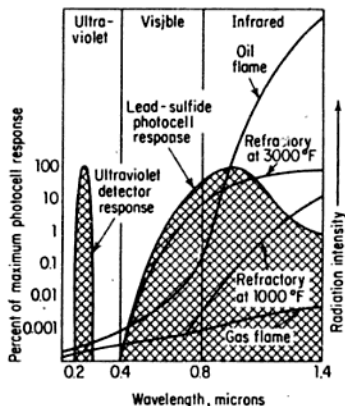

Fig. 11-8. Percentage wavelength light response versus wavelength for flame detection systems.
c. Ultraviolet radiation is the latest flame detector based on the phenomenon of sensing the strength of ultraviolet radiation in a flame. It is insensitive to visual and infrared radiation and is not affected by hot refractories, as these usually do not give off appreciable ultraviolet radiation. When radiation from a flame passes through the typical quartz viewing window of one of these detectors into the flame-sensing tube, the tube becomes electrically conductive. The strength of the detector signal, or current passed through the sensing tube, depends on the kind of fuel, size and temperature of the flame, and distance between the flame detector and the flame. Figure 11-8 shows some typical wavelengths in a flame and response percentage of total wavelengths of typical flame pickup devices.